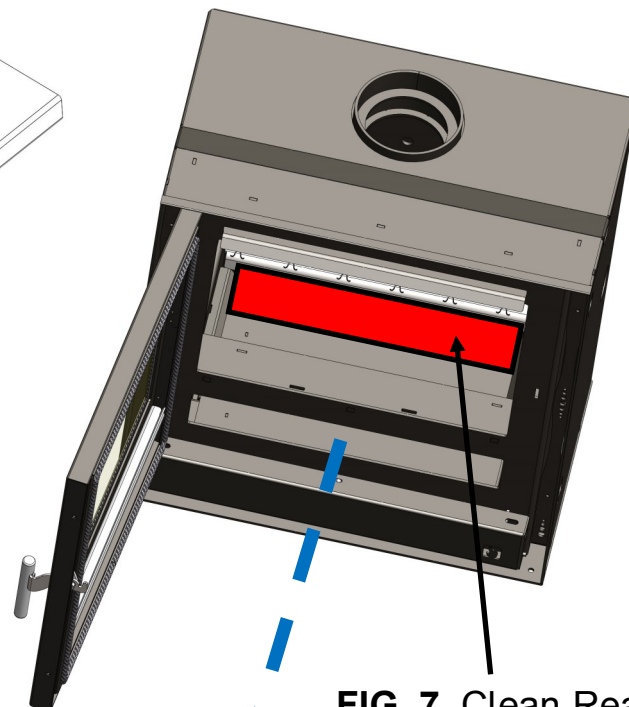

FIG. 7. Clean Rear Firebox Area— Shown In RED
- Vacuum away any loose material & ash from the bottom rear of the firebox (shown below in RED colour)(Fig. 7.).
- Open the control door and locate the two dome headed screws. Using a 3mm hex key, remove these fixings and retain for re-fitting (FIG. 7).